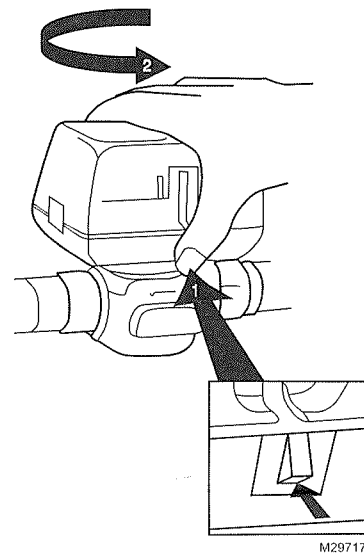

Fig. 1.
4. Remove valve actuator by pressing up on the latch mechanism located directly below the red manual open lever with thumb (See Fig. 1). Simultaneously press the actuator down towards the valve body with moderate hand force and turn the actuator counter-clockwise by 1/8 turn (45°). Lift actuator off the valve body.